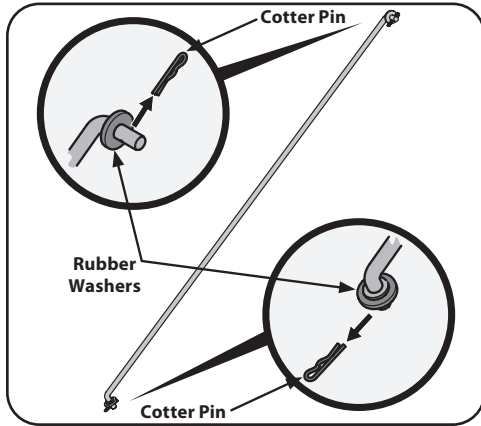

Figure 2-9
2. Remove the cotter pins from the control rod, leave the rubber washers on the control rod. See Figure 2-9.